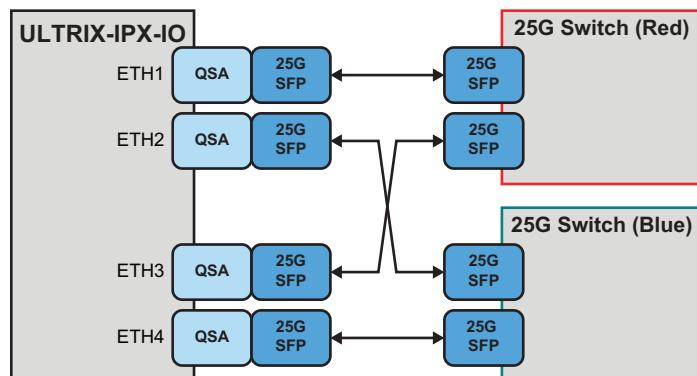

Figure 37 Workflow — QSA/SFP to SFP (25G Switches)
**Figure 37** shows a simplified workflow where the ULTRIX-IPX-IO provides bi-directional communication via four QSA (QSFP to 25G SFP adapter) using fiber cables connected to two 25G ethernet switches.